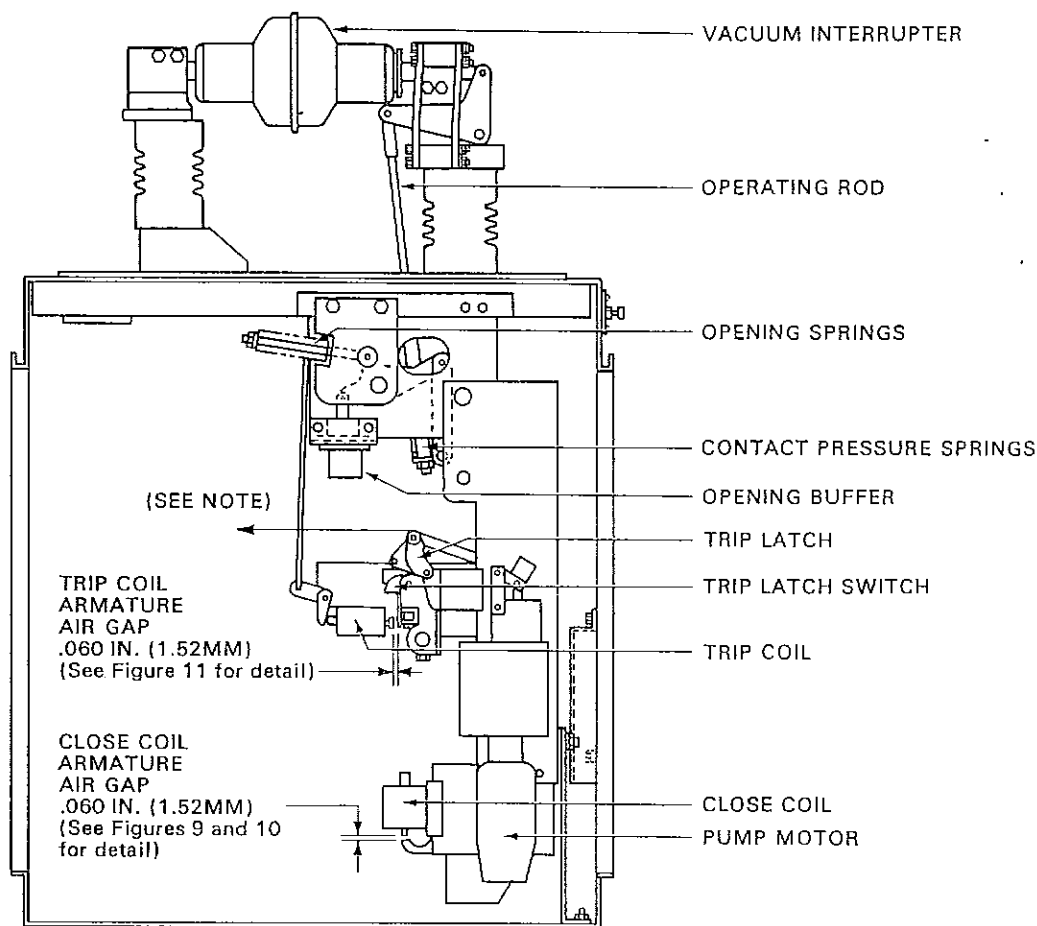
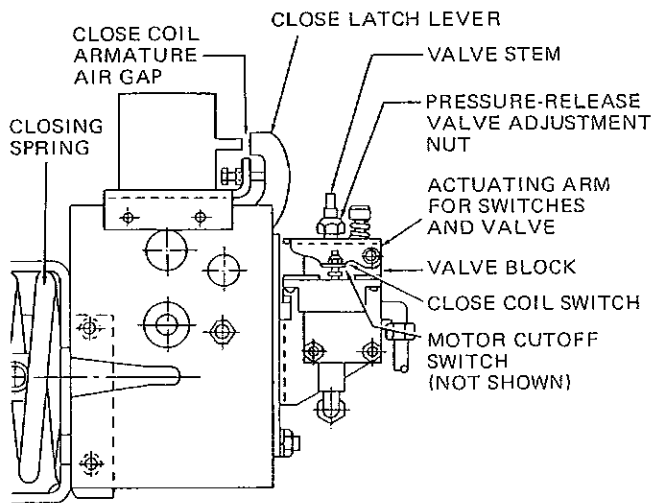

Figure 7
Figure 10
2. With the closing spring discharged and the trip latch set, measure the trip latch armature air gap (Figure 7).
See Figure 7 for close coil location reference and Figure 10 for detail.
2. As demonstrated in Figures 7 and 11, hook a metal strap or wire around the trip pin, bring it out the rear of the mechanism compartment, and attach a spring scale